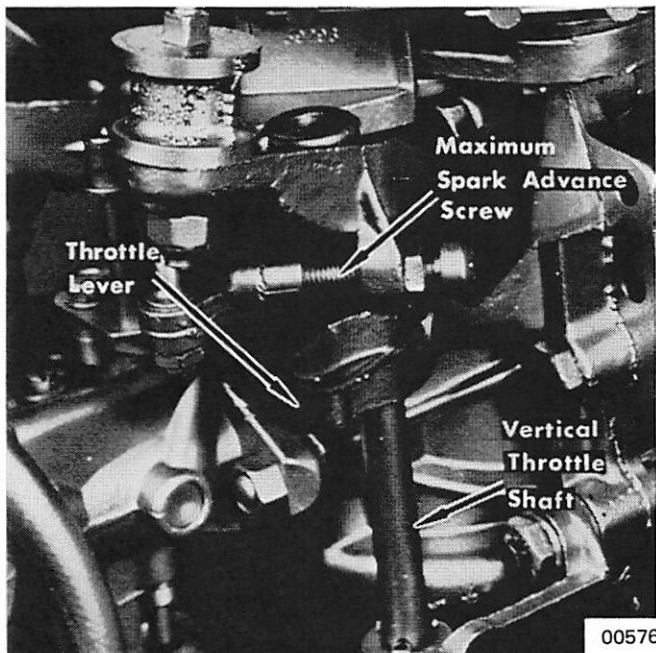

Figure 1. Adjusting Maximum Spark
2. Set throttle lever on vertical shaft until fore and aft position is obtained. Lock screw. (Figure 1)
11. Hold magneto at this position and adjust magneto advance stop screw to just touch magneto stop and tighten lock nut. (Figure 1)